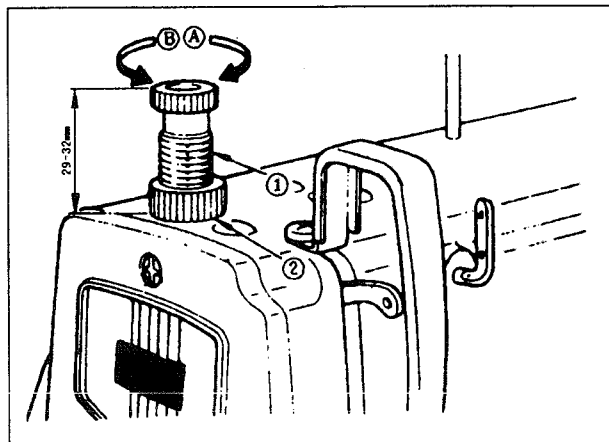

Fig.17
11.PRESSER FOOT PRESSURE (Fig.17)